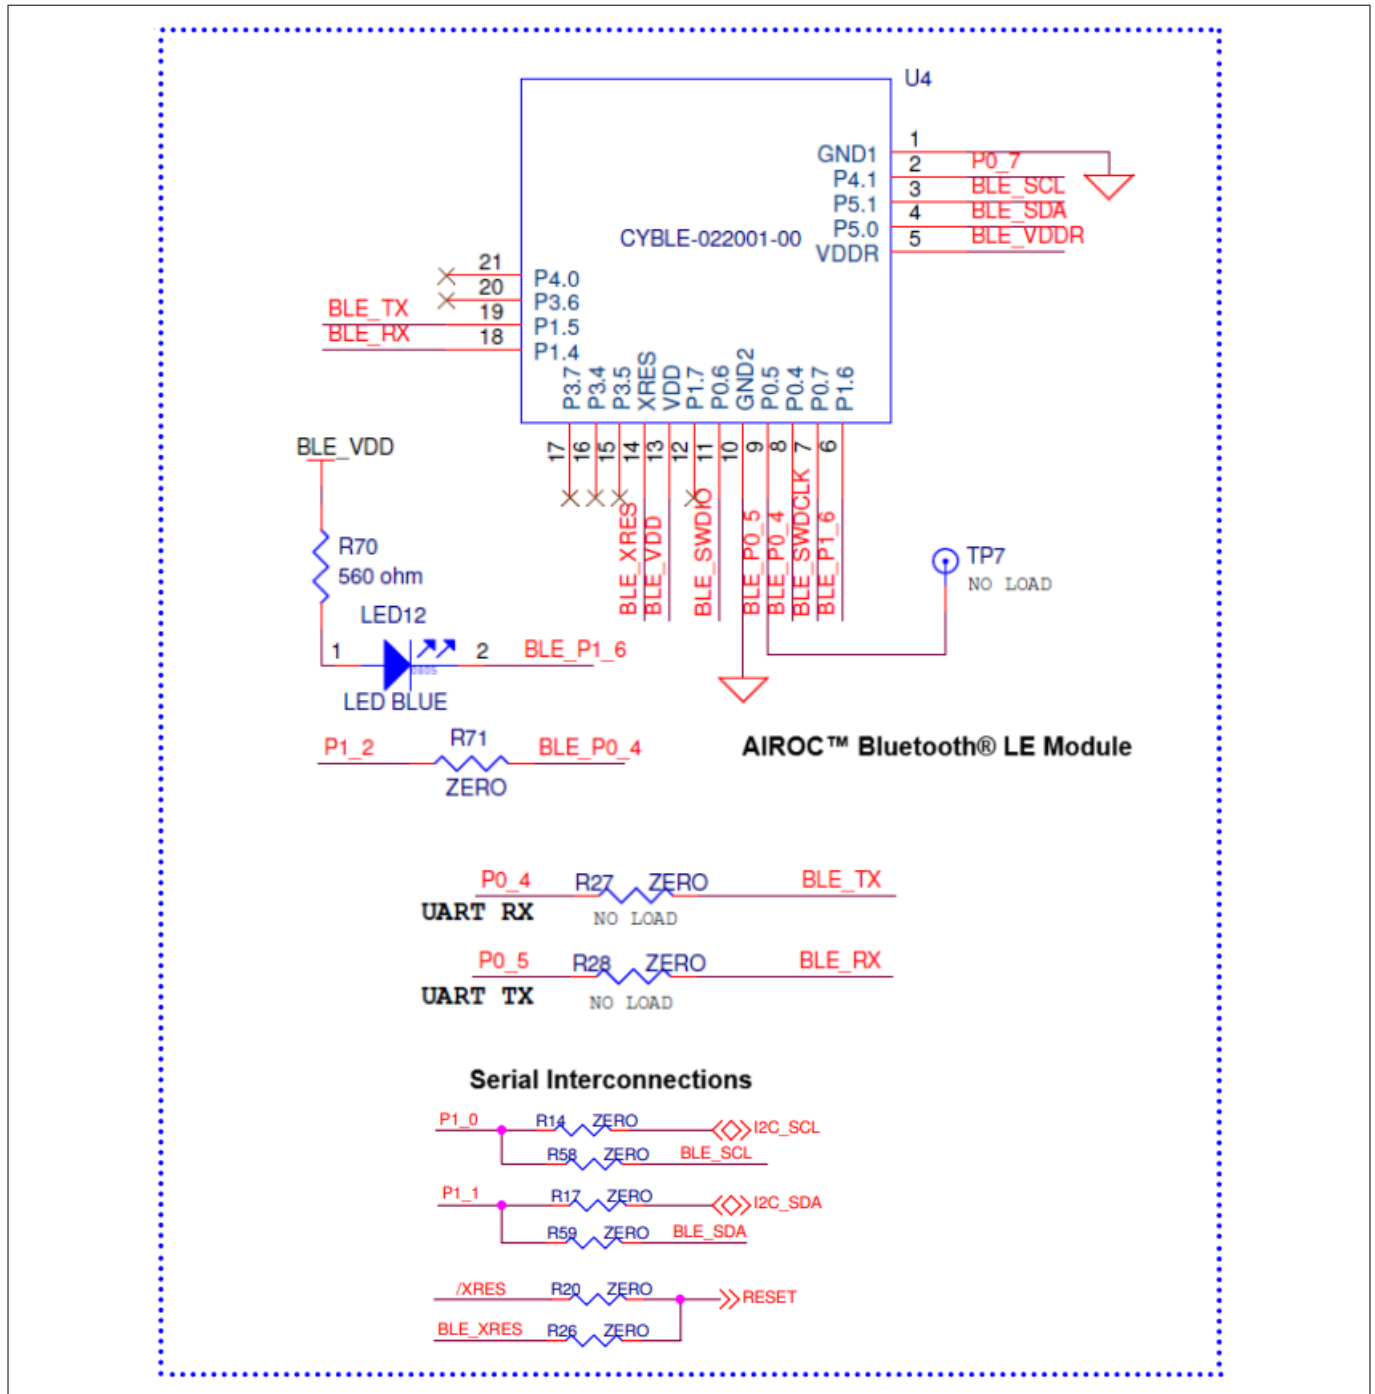

Figure 32 AIROC™ Bluetooth® LE connections
1. UART connections: Connected to PSOC™ 4000S through zero-ohm resistors R28 and R27 (see Figure 32 and Table 7). Note that R28 and R27 are not loaded by default